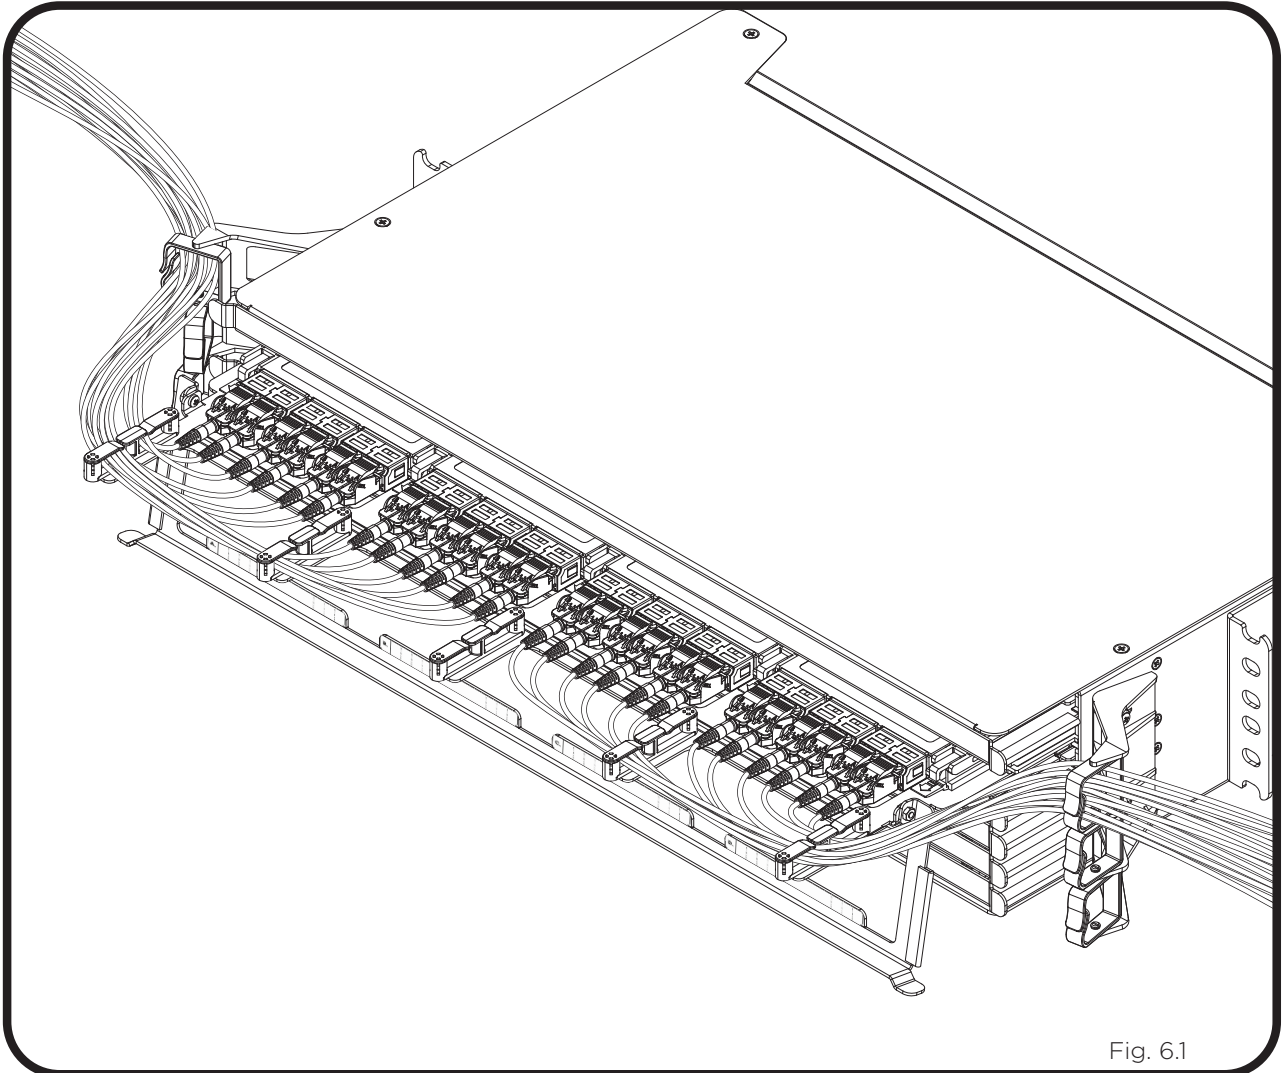

Fig. 6.1
- 6.6. Route the fiber cables through the Side Cable Managers on the left or right side of the UHD Chassis. (Fig 6.1)